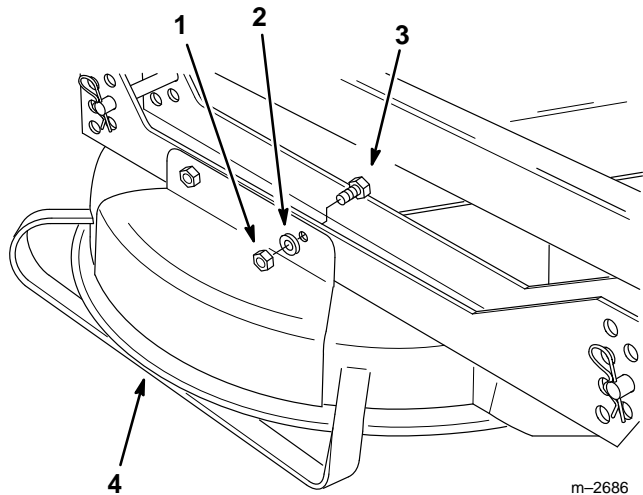

Figure 27
3. Remove the two locknuts, flat washers and hex head bolts holding the discharge chute cover to the deck and remove the cover from the deck (Fig. 27).